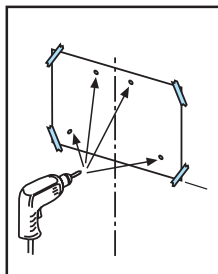

Fig. 9a
- Make holes as indicated on the template, insert the wall dowels and screw 2 screws into the upper holes, leaving a space of about 1 cm between the head of the screw and the wall. **Fig9a-b**